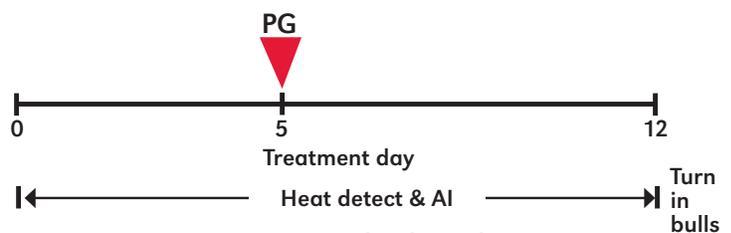

Figure 1. One-injection prostaglandin with HD.
**One-Injection Prostaglandin with HD** (Figure 1). Check for estrus and inseminate all heifers in standing estrus for the first five days of the breeding season. Inject all heifers not previously bred at the end of day 5 with prostaglandin and inseminate these females 12 hours after standing heat.